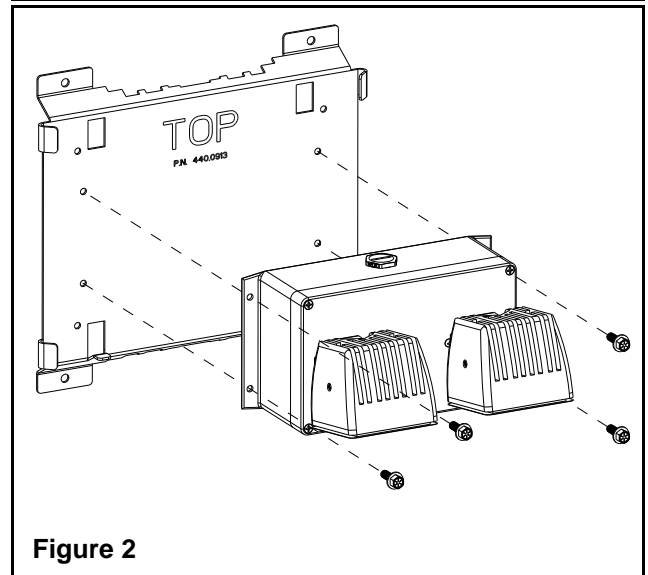

Figure 2
- a. The universal mounting bracket is an accessory ordered separately (See figure 2).